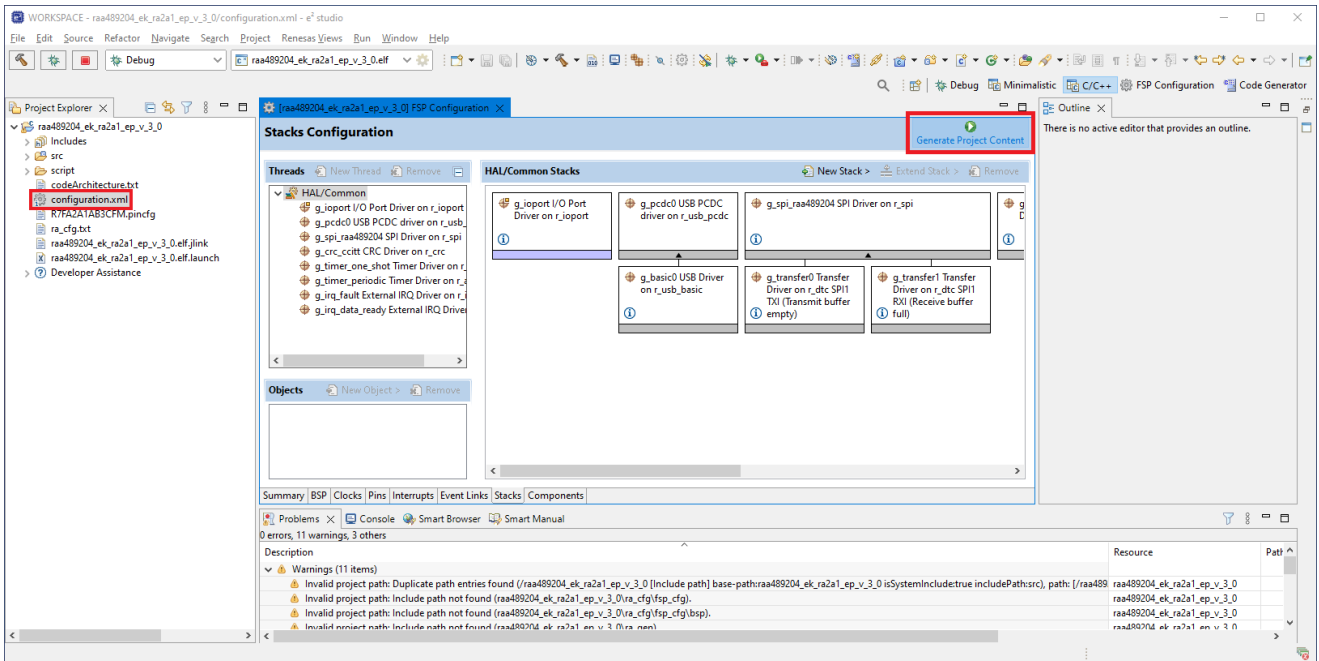

Figure 5. Generation of Additional Project Files
- The project is now imported into the e² studio workspace. **Figure 5** shows the imported project structure. Double-click on **configuration.xml** to open the FSP Configurator and press **Generate Project Content** button to generate the hardware specific project files, needed to run the project on the selected hardware. Now the project is ready to be built.